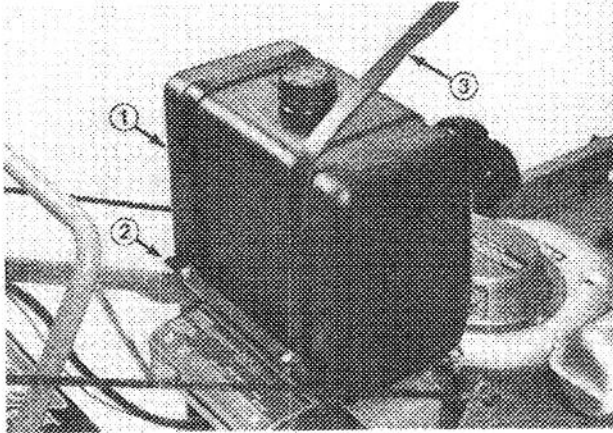

Figure 6
1. Position fuel tank onto mounting plate so fitting opening is to left side (Fig. 6).
2. Secure fuel line straps to rear of fuel tank mounting plate with (2) 1/4-20 x 5/8" lg. cap screws and locknuts (Fig. 6).